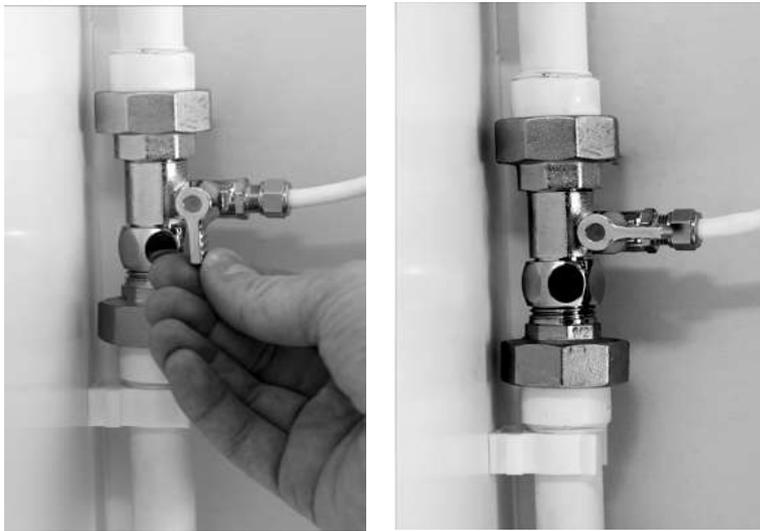

Fig. 18. Water supply using the T-bend with a ball valve.
To supply water to the device, it is necessary to smoothly open the tap on the T-bend (see Fig. 18) so that cold tap water begins to flow into the device.
To start operating, it is necessary to smoothly open the tap on the T-bend (see Fig. 18).
- ◆ Turn off the tap on the T-bend with a ball valve installed in the cold water supply line (see Fig. 18), and then open the shut-off valve on the pure water tap (see Fig. 19) to relieve pressure in the system;